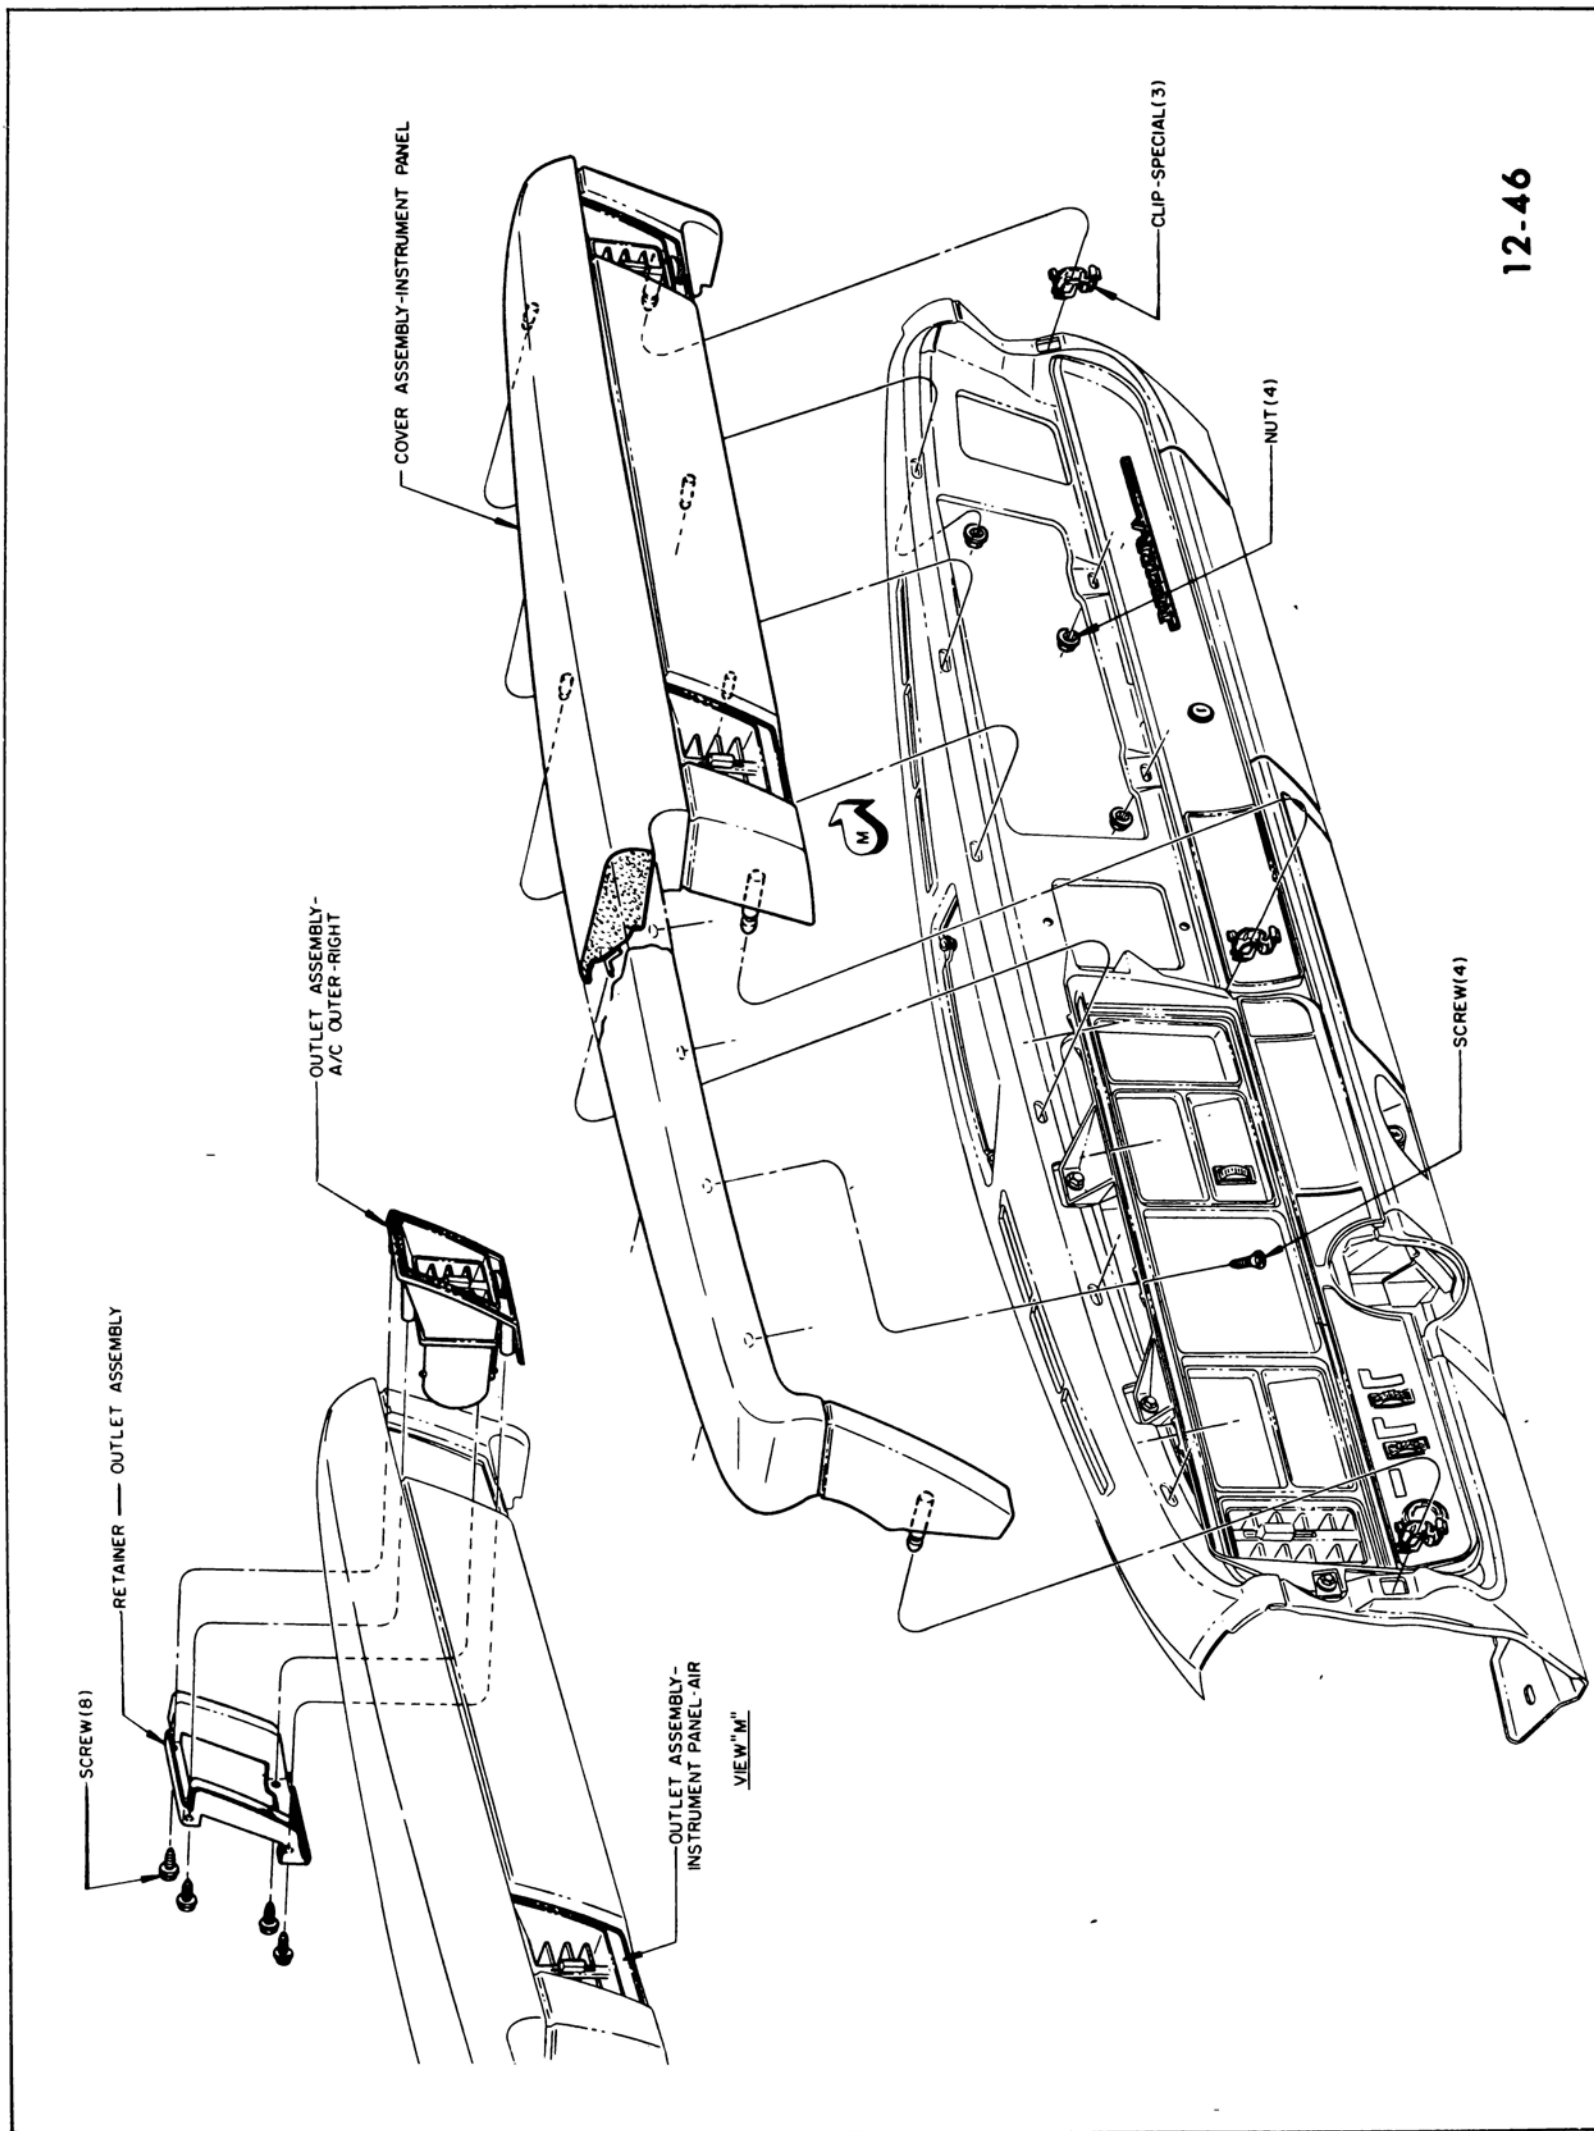

Figure 12-27 Instrument Panel Cover Assembly
1. Remove instrument panel cover assembly. See Figure 12-27.